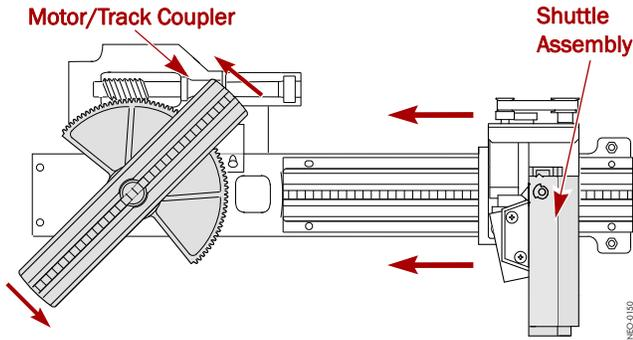

Figure 2. Top View of Track Showing Movable Section
- By hand, turn the **motor/track coupler** until the track section is at a 45° or larger angle (Figure 2).